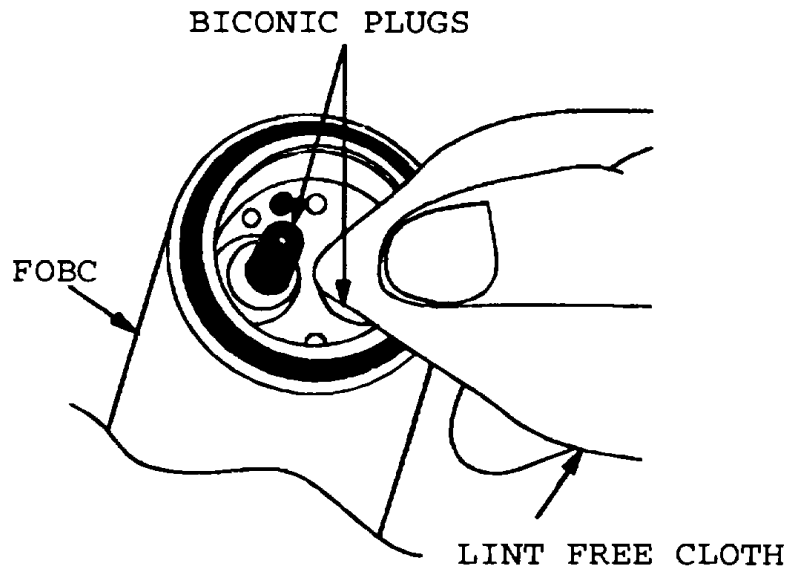

FIGURE 4-5. *Cleaning Biconic Plug.*
- (2) No water or cleaning supplies available.
- (b) Clean biconic plug by gently wiping plug with a dry, clean cloth (refer to Fig. 4-5).